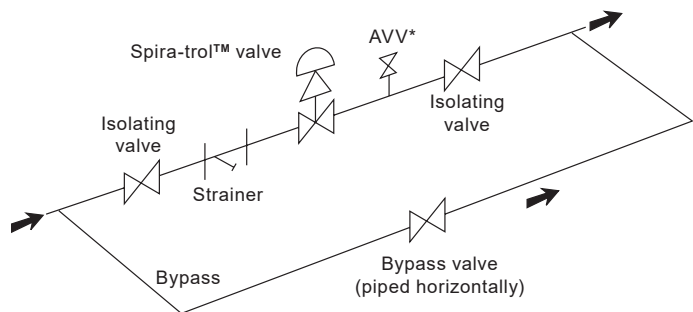

Fig. 3
- 3.6 Determine the correct installation situation and the direction of fluid flow. The valve should preferably be installed along a horizontal pipeline with the valve mounted above the pipe (see Figure 3). When mounting an actuator to the valve body, the actuator Installation and Maintenance Instructions must be followed.